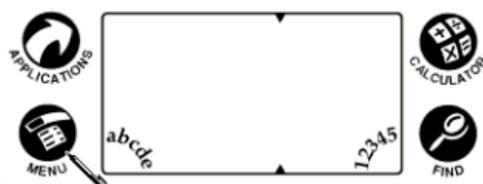

Fig. 6. Tap the menu icon.
1. Tap either the title tab or the silk screen menu icon (see Fig. 6).